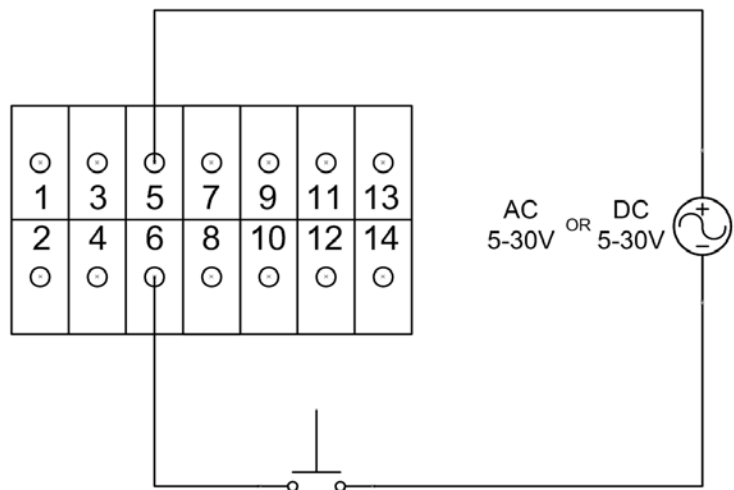

Figure 15. External Power Supply
- Connect the negative of your power supply to terminal 5 (see Figure 15).